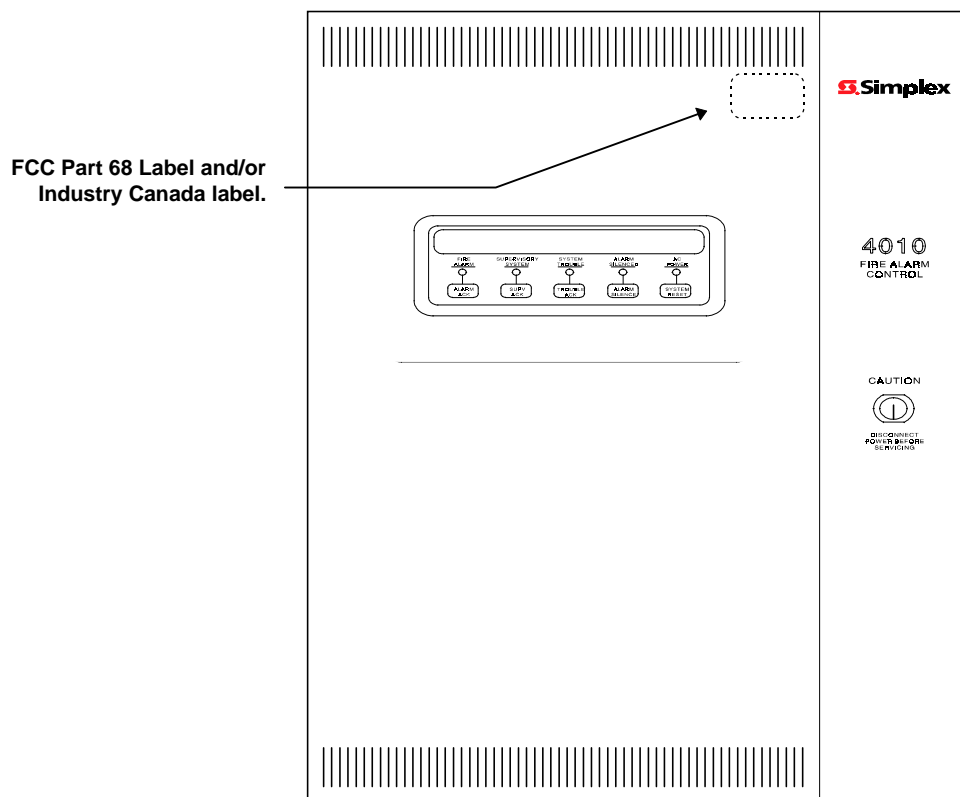

Figure 1. Placement for FCC Part 68 and Industry Canada Labels
1. Refer to Figure 1 and locate the LCD Display and the Touch Pad keys below it.
2. Notice the placement of the labels above and to the right of the LCD Display and the Touch Pad keys in Figure 1.
3. Place the FCC and Industry Canada labels on the 4010 Fire Alarm Control Panel door in the same position as that shown in Figure 1. **Be sure not to cover vent holes.**